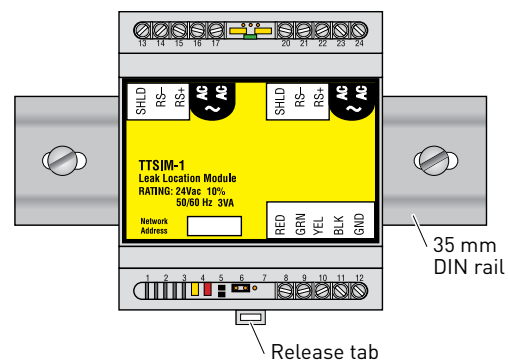

Figure 1. DIN Rail Mount
MOUNTING THE TTSIM-1 MODULE (WITHOUT NEMA 4X ENCLOSURE – FIGURE 1)
- **Note:** When properly oriented, there will be two terminal strips on the top of the module and one on the bottom. See Figure 1.